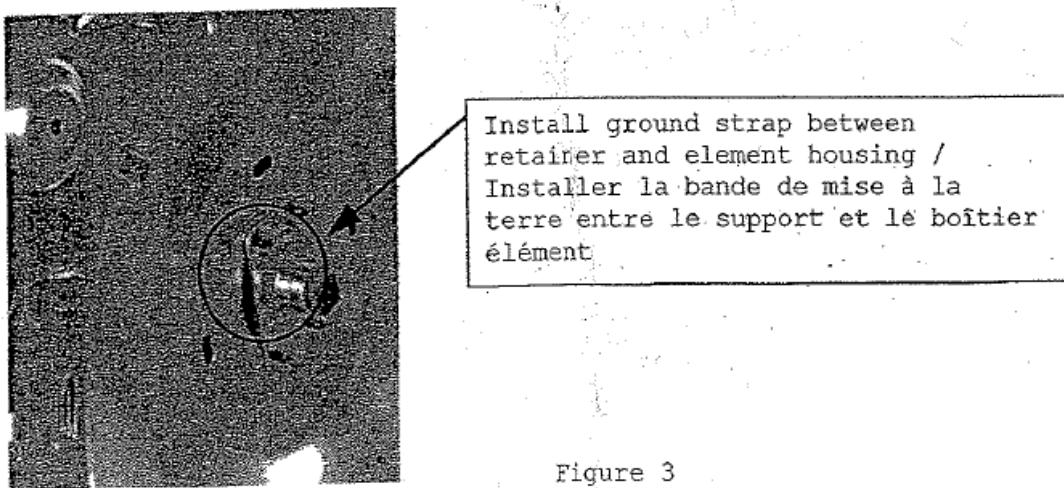

Figure 3
9. Reinstall the new bearing retainer and the new ground strap. Be sure to install the ground strap so that its lip is sandwiched between the element housing and the bearing retainer, as in figure 3, as is the case with the components you have just removed.